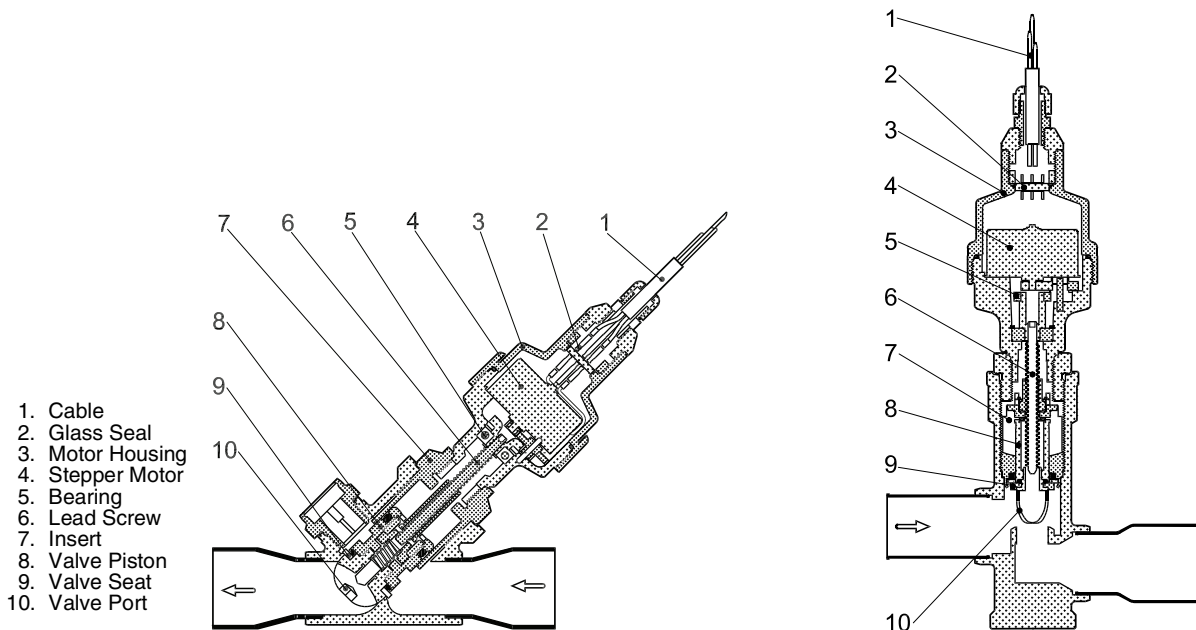

Fig. 60 — Cutaway Views of the Electronic Expansion Valve
See Fig. 60 for a cutaway view of the EXV. High-pressure liquid refrigerant enters valve through the top. As refrigerant passes through the orifice, pressure drops and refrigerant changes to a 2-phase condition (liquid and vapor). The electronic expansion valve operates through an electronically controlled activation of a stepper motor. The stepper motor stays in position unless power pulses initiate the two discrete sets of motor stator windings for rotation in either direction. The direction depends on the phase relationship of the power pulses.
3. The expansion valve motor is hermetically sealed inside the top portion of the valve. See Fig. 60. Disconnect the EXV plug. Carefully unscrew the motor portion from the body of the valve. The EXV operator will come out with the motor portion of the device. Reconnect the EXV plug.
4. Enter the appropriate EXV test step under the (**QUIC**) Service Test mode. Locate the desired item **Circuit A EXV Position, EXV.A, Circuit B EXV Position, EXV.B, or Circuit C EXV Position, EXV.C**. Change the position to 100%. Observe the operation of the lead screw. See Fig. 60. The motor should be turning, raising the operator closer to the motor. Motor actuator movement should be smooth and uniform from fully closed to fully open position. Select 0% and check open to closed operation. If the valve is properly connected to the processor and receiving correct signals, yet does not operate as described above, the sealed motor portion of the valve should be replaced.